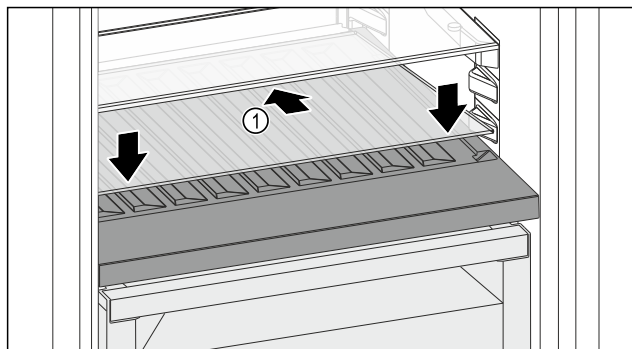

Fig. 136
- Place the glass shelf Fig. 136 (1) at an angle, sloping it downwards and backwards.
- Lower the glass shelf Fig. 136 (1) at the front.